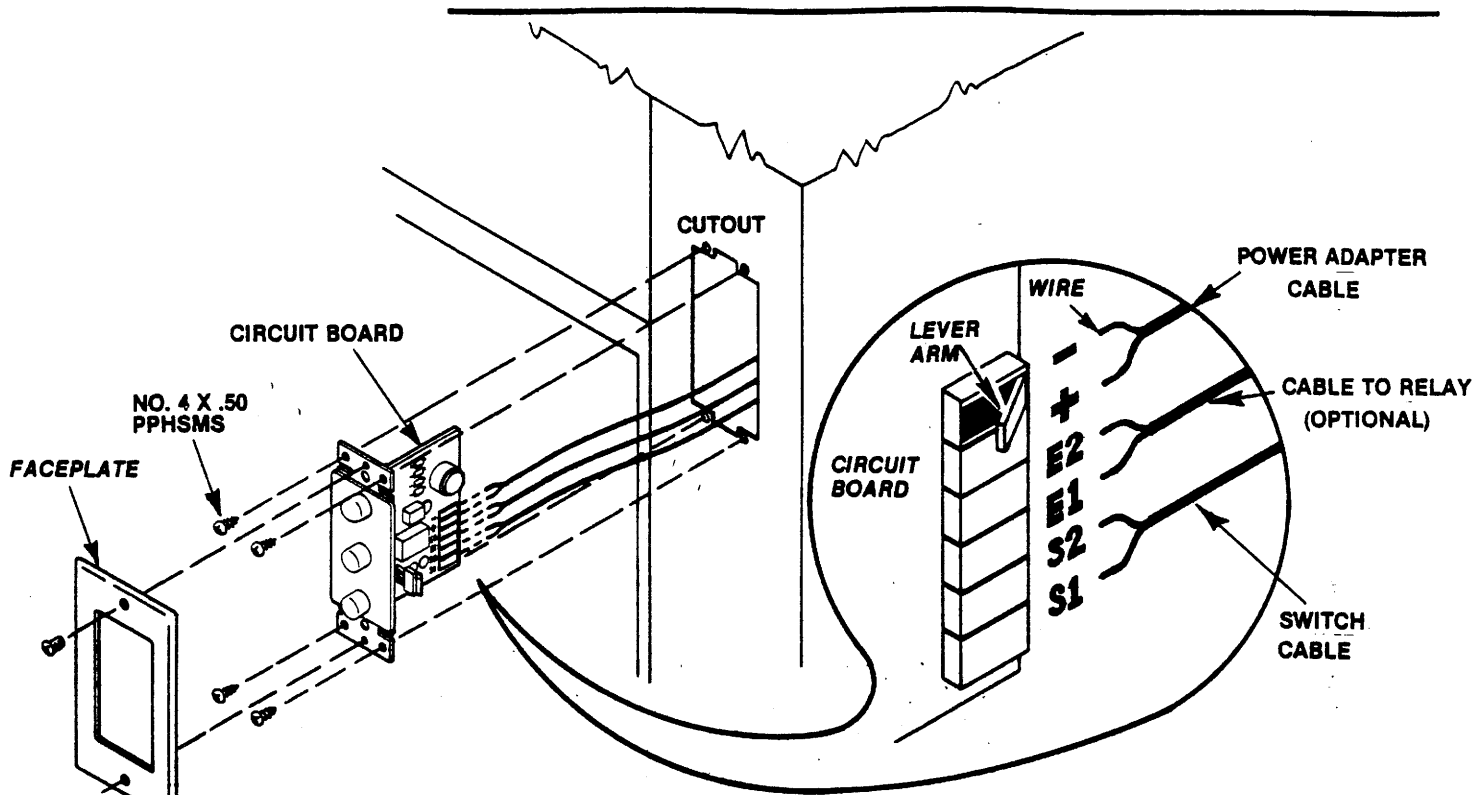

FIGURE 3
3. Route power adapter leads through the cutout and connect to the + and - terminals on the circuit board. Be careful to observe correct polarity as marked on the adapter. See Figure 3.
4. Connect the wire ends of the power adapter cable to the alarm contacts S1 and S2 on the circuit board. Make sure that switch makes contact to signal emergency conditions. See Figure 3.
6. Install the circuit board assembly directly to the cutout using four No. 4 x .50" sheet metal screws. See Figure 3.